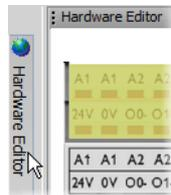

Figure 5-7 Opening the hardware editor with the auto-hide function enabled
1. Show the hardware editor ("View" menu, "Hardware Editor" command) and the toolbox ("View" menu, "Toolbox" command). If the auto-hide function is enabled, position the cursor over the minimized window as shown in Figure 5-7 for the hardware editor.
1. Show the toolbox ("View, Toolbox" menu). If the auto-hide function is enabled, position the cursor over the minimized window as shown in Figure 5-7 for the hardware editor.